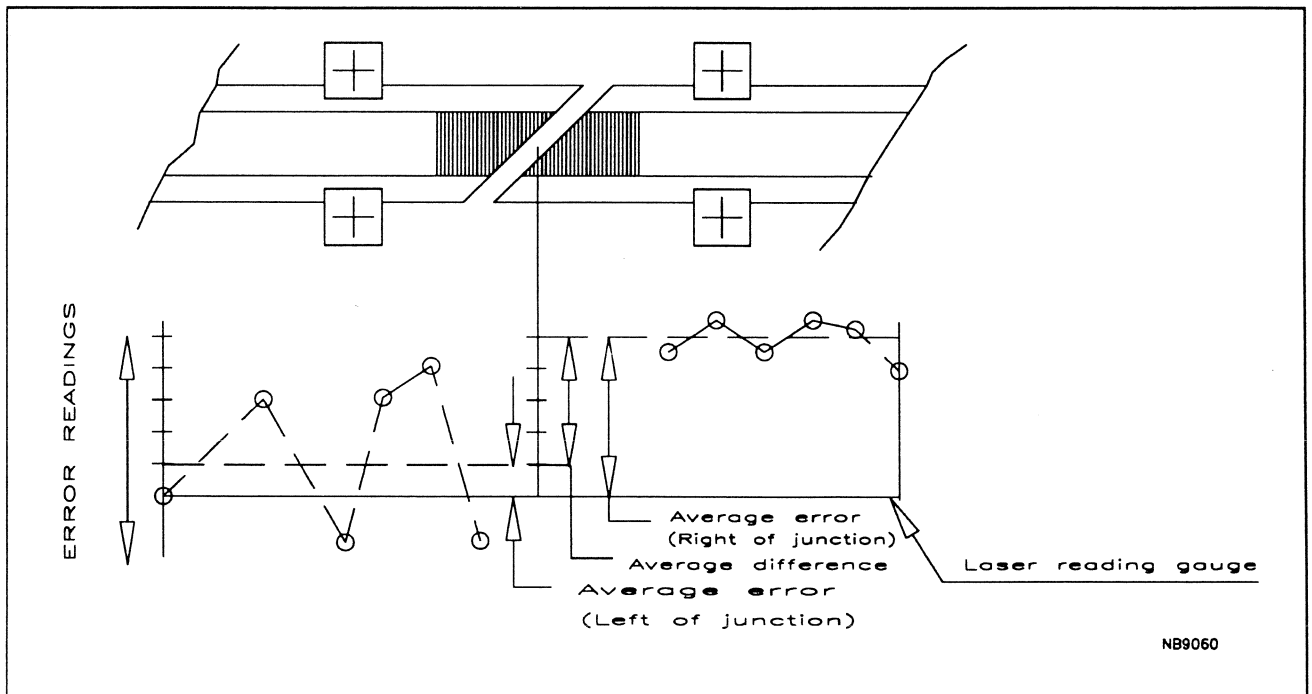

Fig. 32 Using the laser method
- By reading both the visual and laser displays take a series of readings (about six to eight) on the left-hand side of the first junction, plot the difference and calculate the average error. (Also refer to figure 32).
- If a difference in average error (average difference fig 32) between the first set of readings (left-hand side of junction) and the second set of readings is found, adjust the position of the right-hand scale (second) by lightly tapping it with a hammer through a steel rod.